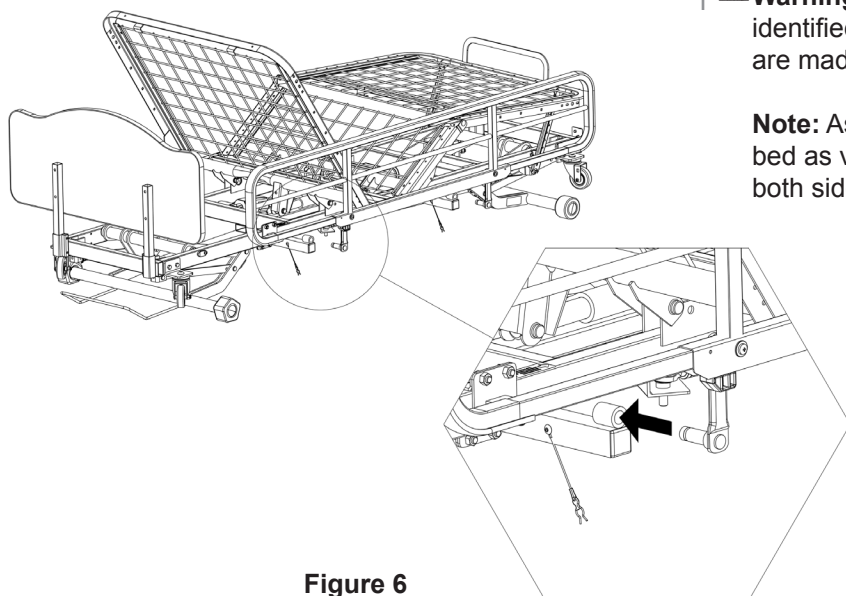

Figure 6
6. Position the head end brackets over the location labels. Ensure that the edge of the bracket is flush with the arrow and is covering the black stripe fully. The B500 will align to the opposite edge of the bracket as shown in Figure 6. Tighten the bolts and nuts fully.